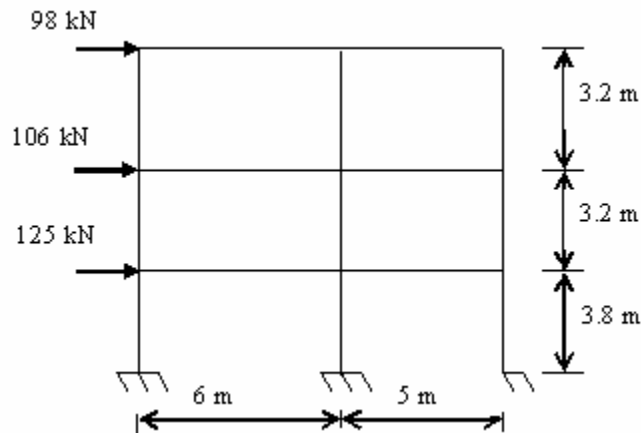

Fig.5
7. Analyze the frame shown in Fig.5 by Stiffness method. Draw the bending moment diagram and sketch elastic curve. Cross-sectional area of all columns is equal. [15]